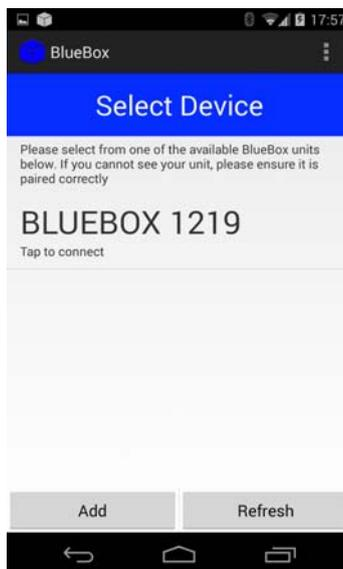

Figure 8
5. Select the BlueBox device (*Figures 8 and 9*). The No. 1219 corresponds to BlueBox serial number (there may be more than one).